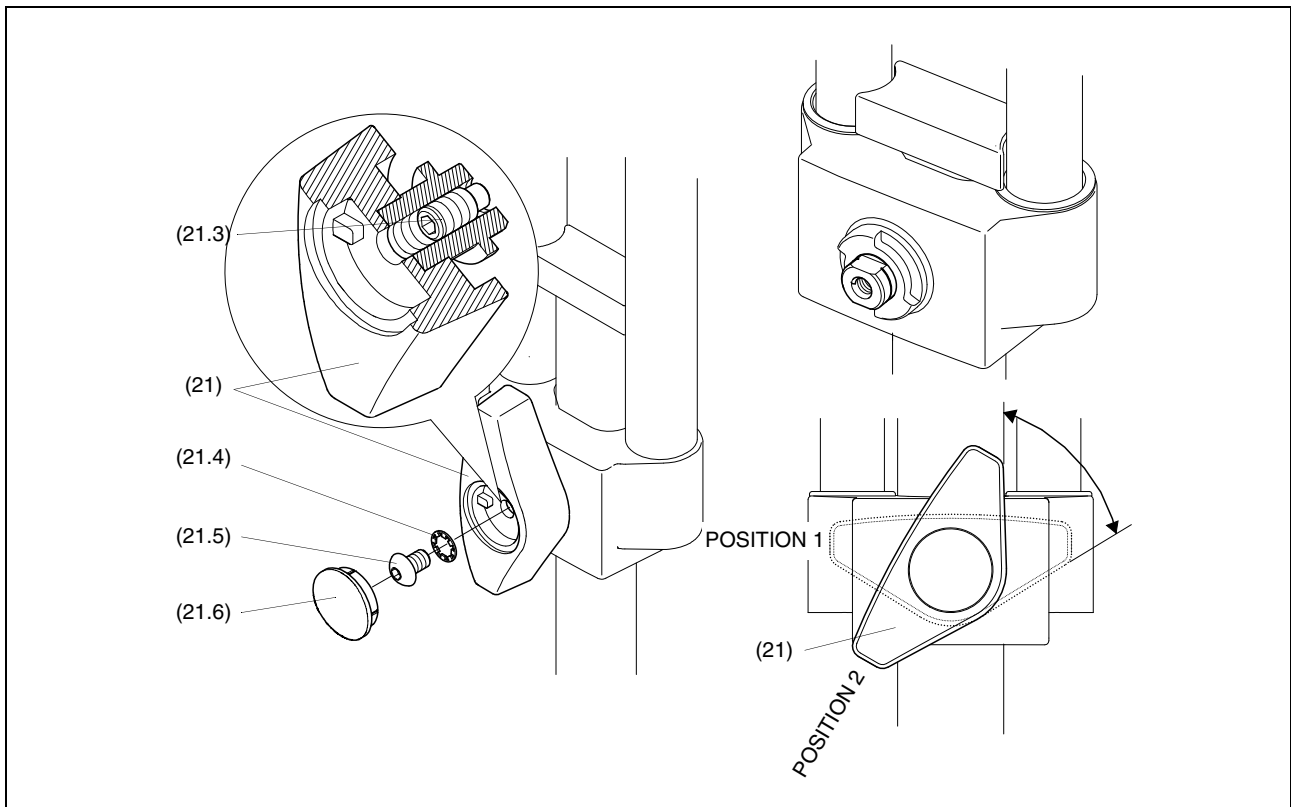

Fig 4.4 Bottom clamp adjustment
- 15 Using a flat-bladed screwdriver, carefully remove the hole plug (21.6) (Fig 4.4).
- 16 Remove the retaining screw (21.5) and washer (21.4), but do not remove the clamp knob (21).
- 17 Rotate the clamp knob (21) to 'position 2' shown in (Fig 4.4), with the edge of the clamp knob (21) vertical. In this position the clamp is NOT fully rotated counterclockwise in the 'off' position.
- 20 Rotate the clamp knob (21) fully counterclockwise to the 'off' position and ensure that the leg is free to move under its own weight.
- 21 Secure the clamp knob (21) with the washer (21.4) and retaining screw (21.5). Refit the hole plug (21.6).